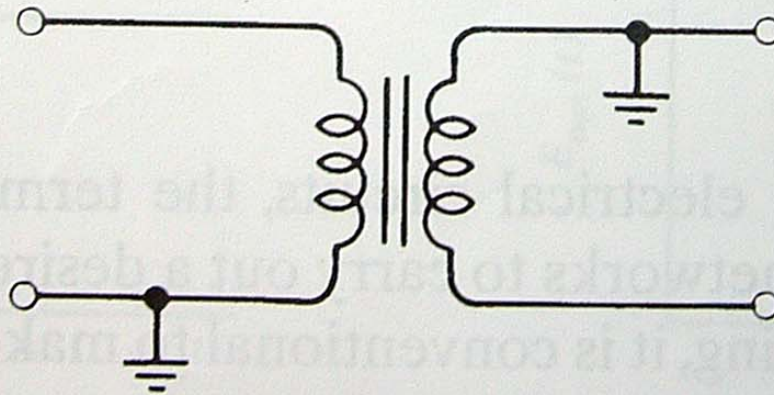

Figure 16.7 The basic configuration of an inverting pulse transformer.
- Shown in Fig 16.7, an inverting transformer will perform a signal inversion